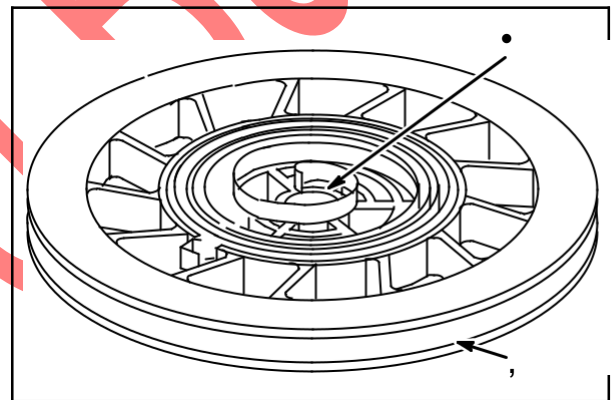

Fig. 58
Inspect pulley for wear, cracks, rough edges or burrs in pulley groove (2) and wear on center hole (1), **Fig. 58**. Replace pulley if damaged or worn.